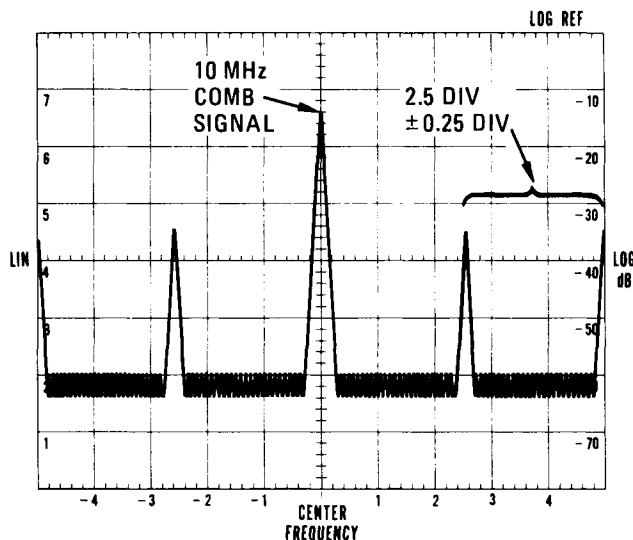

Figure 5-2. 500 MHz LO Linearity Display
9. Adjust A9A2R12 (SCAN WIDTH ADJ) clockwise until five comb signals (one 10 MHz comb and four 1 MHz combs) are visible on the CRT. Keep the 10 MHz comb signal centered with FINE TUNE; leave FREQUENCY set as it was in step 7. The display should resemble Figure 5-2.